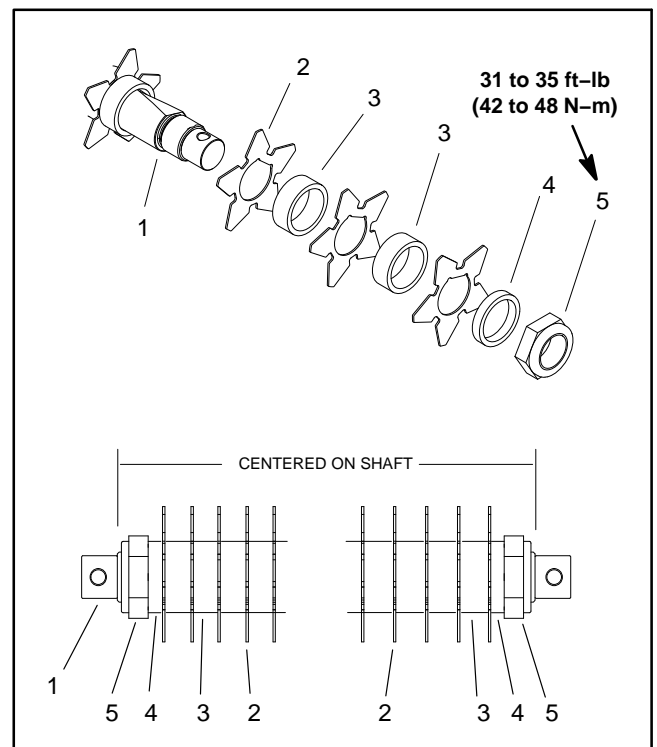

Figure 9
Disassembly (Fig. 9)
4. Remove lock nut from either end of the shaft (Fig. 9).
Assembly (Fig. 9)